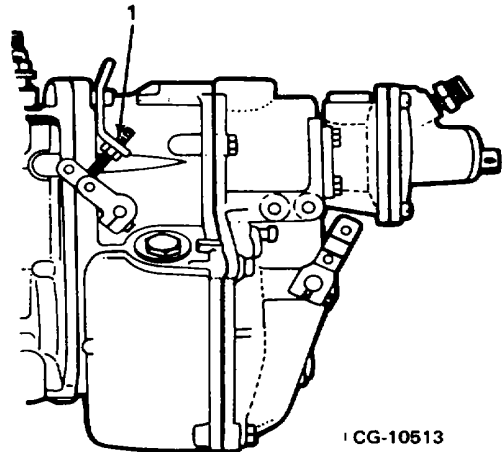

Figure 5.
12. Insure zero dial indicator setting as outlined in Step 2. Adjust shut-off lever stop screw (Figure 5) to 1.5 - 2.0 mm (.060 - .079") rack position.